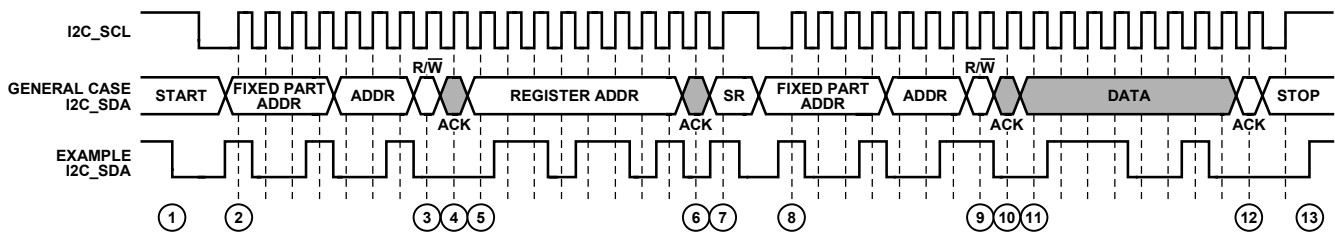

Figure 30. I2C Read Diagram
To read data from the AD8191A register set, an I2C master (such as a microcontroller) needs to send the appropriate control signals to the AD8191A slave device. The signals are controlled by the I2C master, unless otherwise specified. For a diagram of the procedure, see Figure 30. The steps for a read procedure are as follows:
9. Send the read indicator bit (1).
- 13a. Send a stop condition (while holding the I2C\_SCL line high, pull the SDA line high) and release control of the bus to end the transaction (shown in Figure 30).